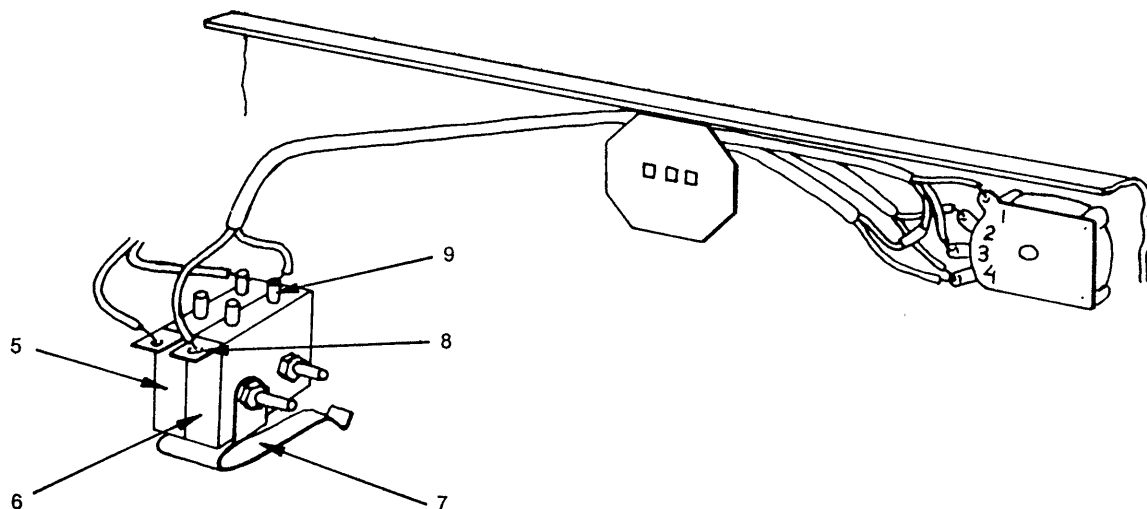

Fig. 8.6 Introduction of extra microswitch.
- Connect a shielded wire from the microswitch (6) and the potentiometer VOLUME as shown in fig. 8.6. Solder the shield to terminal 1 on the potentiometer.